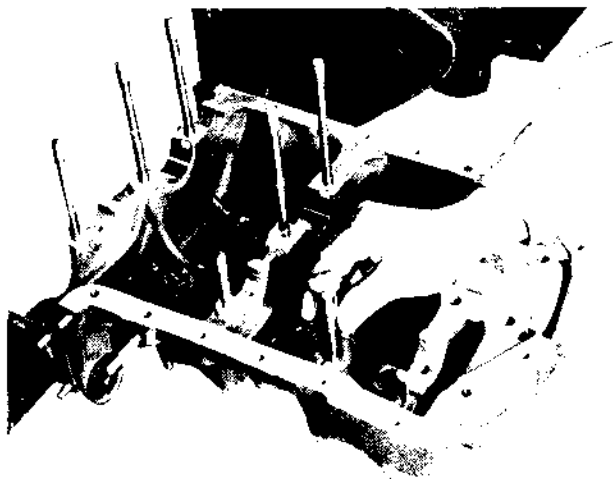

Figure 18. Installing Cam Follower Body into Crankcase.
(2) Dip cam followers in light oil and insert into the push rod housing pads from the inside of the crankcase (Fig. 18). Install in both halves of the crankcase.